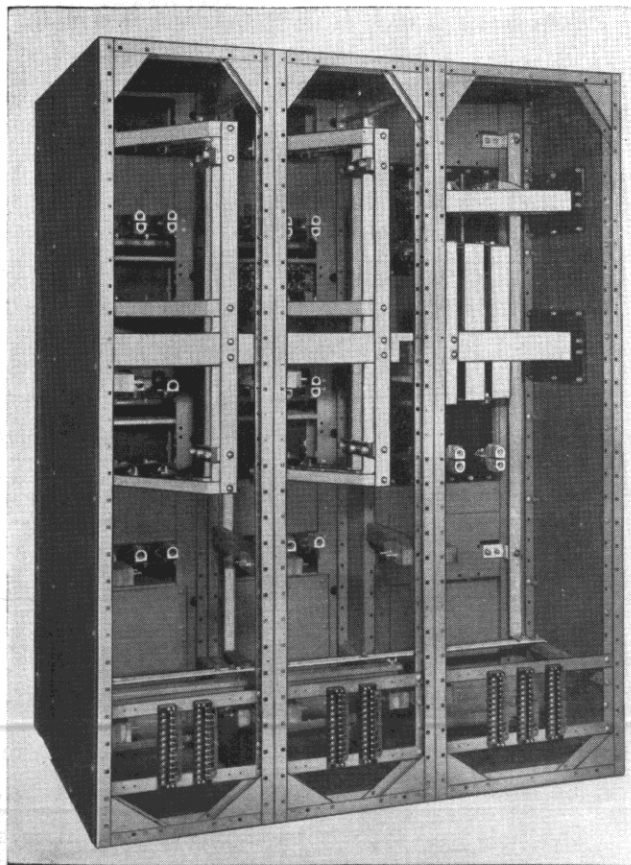

FIG. 3. View of Rear Bus Compartment
**Stationary Structure.** The stationary structure is an assembly of one or more steel housings, each consisting of a formed and welded front enclosure containing the circuit breaker compartments, and a rear enclosure for the bus copper, cables, instrument transformers and other detail equipment. See Fig. 3. The front compartments are completely enclosed, segregating each circuit breaker from the other breakers.